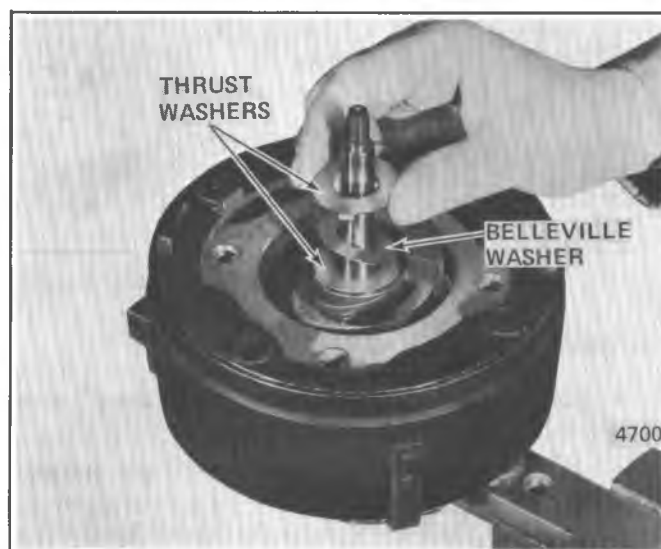

Fig. 1D-97 Replacing R-4 Thrust and Belleville Washers
4. Install a new thrust washer on the compressor shaft with the thrust washer tang pointing "up" (Fig. 1D-97).
6. Install the remaining thrust washer on the shaft with the tang pointing "down" (Fig. 1D-97).